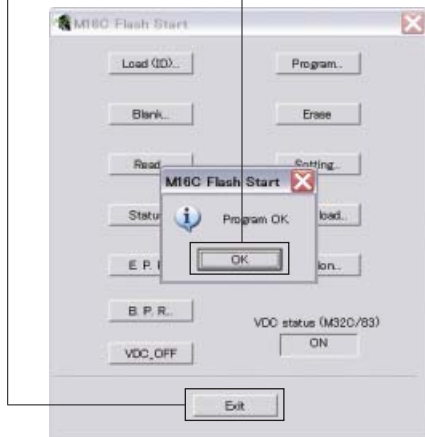

Fig. 6
8. When writing is completed, the screen appears as shown below. (Fig. 6)
Click [OK]. (Fig. 6)
9. Click [Exit] to end FlashSta.exe. (Fig. 6)
[OK] をクリックします。(Fig. 6)
(Fig. 6)